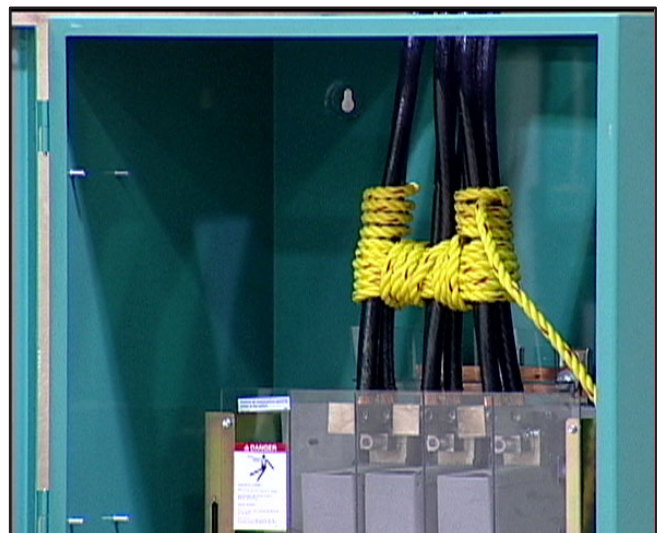

FIGURE 3-2. SECURING THE POWER CABLES
- For 800–1000 amp transfer switches used on a circuit capable of delivering 50,000 amps @ 600 volts, wrap the line cables together with nominal 1/2-inch nylon rope, or rope having a minimum tensile strength of 4200 pounds, at five inches from the line terminals with four wraps (see Figure 3-2).